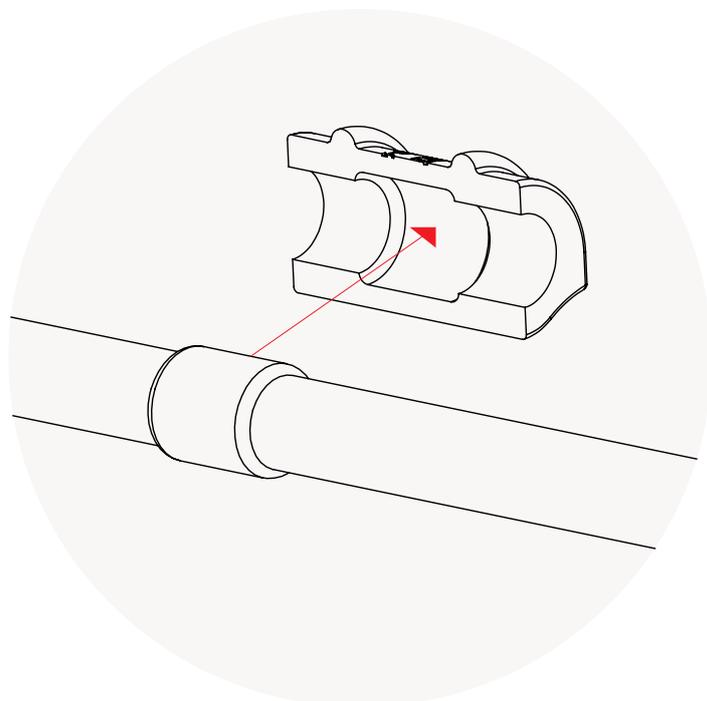

Figure 1 - shows the positioning of part A polyurethane bush to the roll bar where the red arrow shows the correct line up of the two parts
3. Gently pry open the part A polyurethane bush and mount over the roll bar, where the groove is placed. Make sure the groove feature inside the bore of the polyurethane bush lines up with the groove on the roll bar (this restricts any horizontal movement), as shown in Figure 1.